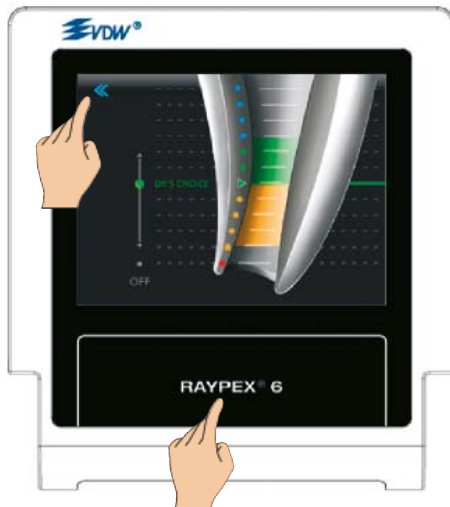

Fig. 26 Exit DR'S CHOICE
- To exit DR'S CHOICE, tap the back arrow icon or the RAYPEX® 6 "home" icon (Fig. 26).